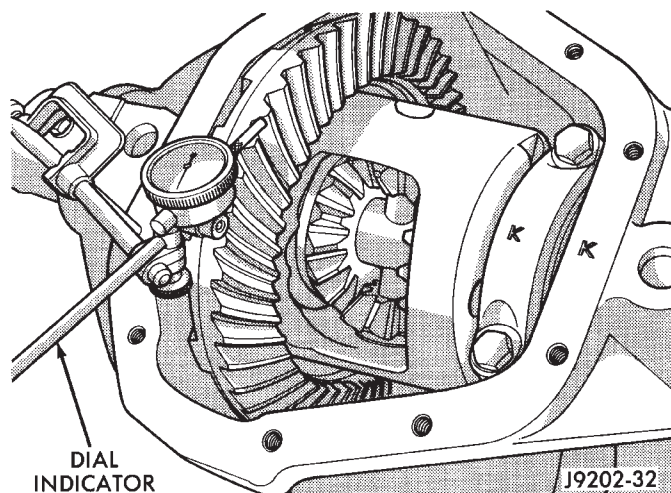

Fig. 73 Ring Gear Backlash Measurement
(25) Subtract the backlash shim thickness from the total preload shim thickness. The remainder is the shim thickness required on the pinion side of the axle housing.
(26) Rotate dial indicator out of the way on guide stud.
(27) Remove differential case and dummy bearings from axle housing.
(28) Install new side bearing cones and cups on differential case.
(29) Install spreader W-129-B, utilizing some components of Adapter Set 6987, on axle housing and spread axle opening enough to receive differential case.
(30) Place side bearing shims in axle housing against axle tubes.
(31) Install differential case in axle housing.
(32) Rotate the differential case several times to seat the side bearings.
(33) Position the indicator plunger against a ring gear tooth (Fig. 73).
(34) Push and hold ring gear upward while not allowing the pinion gear to rotate.
(35) Zero dial indicator face to pointer.